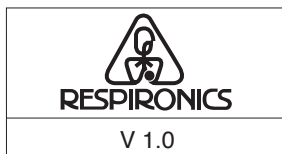

FIGURE 4–1 SOFTWARE VERSION SCREEN
1. Plug the device in to an AC or DC power source. The three primary buttons light up and the Software Version screen momentarily appears, shown in Figure 4–1.